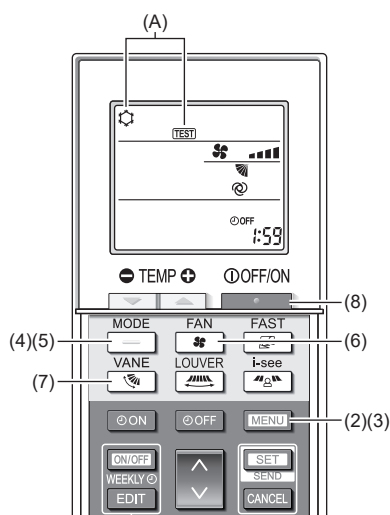

Fig. 8-5
- Press the **MENU** button for 5 seconds. (Fig. 8-5)
(A) [TEST] and the current operation mode are displayed. (Fig. 8-5)